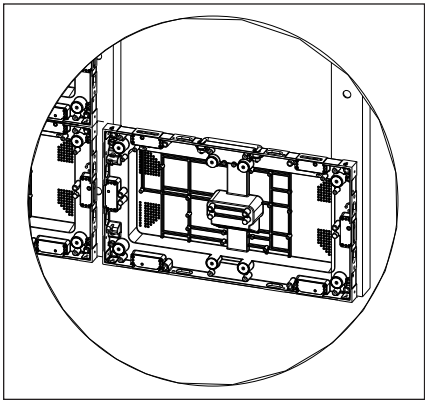

Figure 14: Set Panel in Place
- 2. Place the panel beside the existing panel. Refer to **Figure 14**.